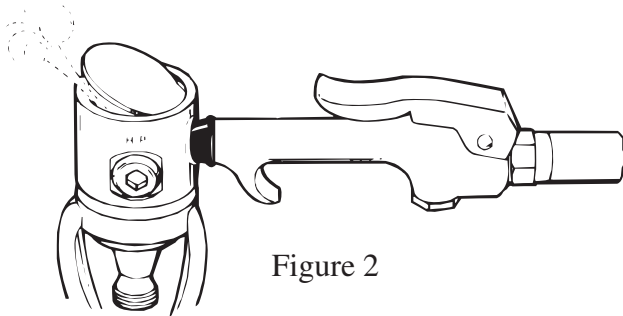

Figure 2
9. Secure the dust cap (Item 3) in place by means of the yoke screw (Item 2). Using the low-pressure filtered air directed down through a low-pressure port on the first-stage body (Item 16), blow out the primary diaphragm (Item 25). (See Figure 2). Discard the used diaphragm.